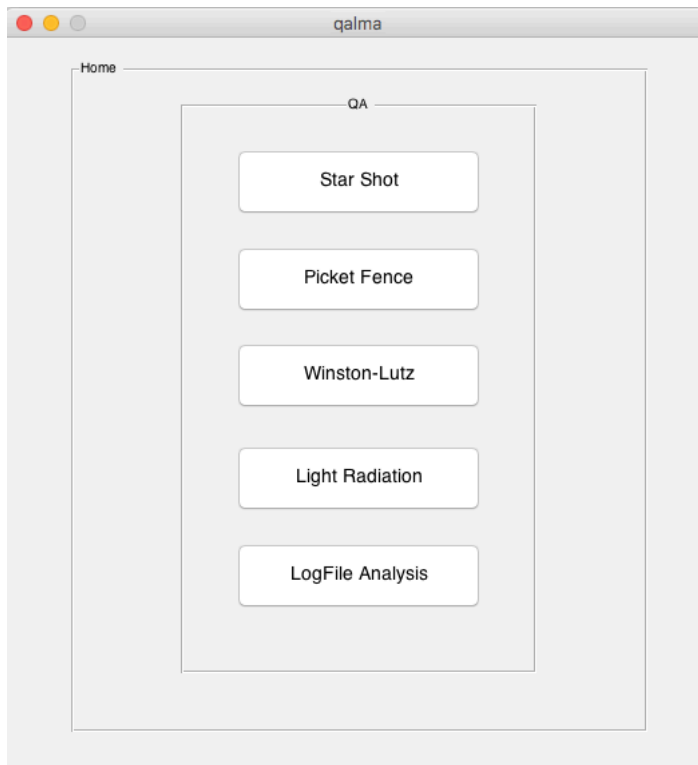

Fig. 2: QALMA Main Window
4. To start QALMA main GUI (Fig 2.), type in the Command Window: